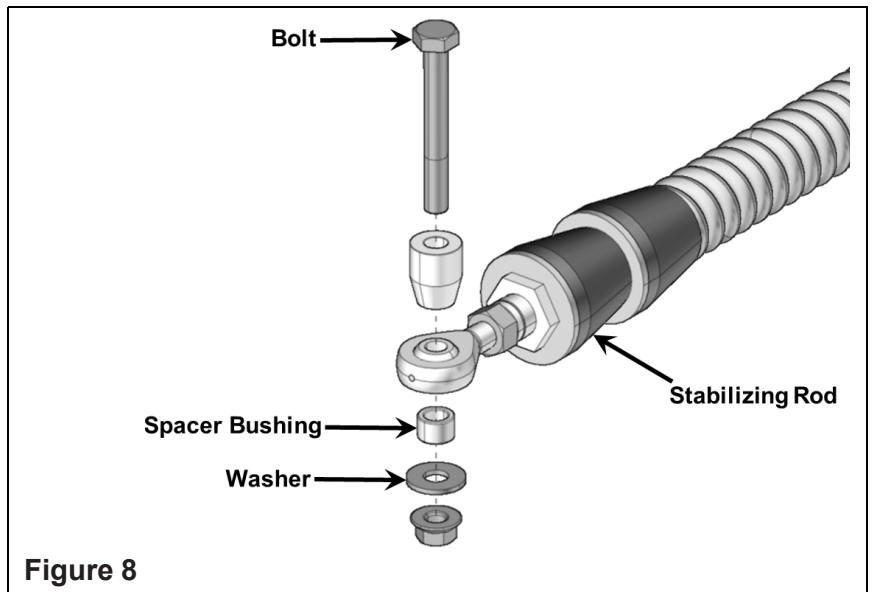

Figure 8
3. Remove bolt, washers and spacer bushings from the rear stabilizing rod end. Figure 8.